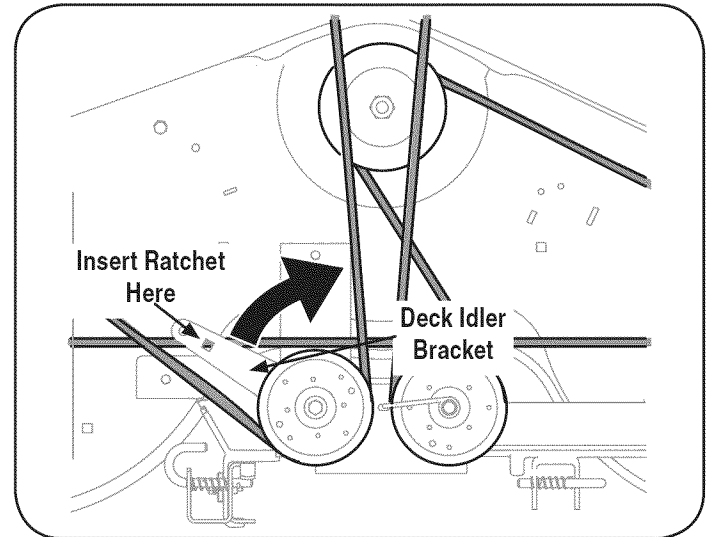

Figure 11
**NOTE:** If there is too much tension on the belt for it to be easily removed from the electric PTO clutch, carefully insert a 3/8" drive ratchet wrench (set to loosen) into the square hole found in the left-hand deck idler bracket and pivot it toward the tractor's right side to relieve tension on the belt. See Figure 11.